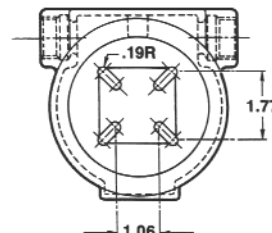

Figure 1. Internal Mounting Pad Dimensions
- Prepare a template or mark the position of the device mounting holes on the mounting pads in the bottom of the enclosure. See Figure 1.